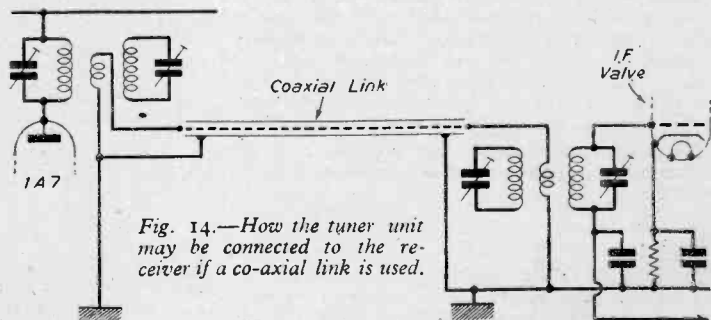

Fig. 14.—How the tuner unit may be connected to the receiver if a co-axial link is used.
**T**HERE may be losses in the lead connecting the remote unit to the receiver proper, but these should not be excessive if care is taken. Cotton-covered bell wire would not prove very efficient for this job, owing to its poor insulation and comparatively high resistance. Good quality lighting flex (used as mentioned above) should do quite well in the absence of screened twin cable. Co-axial cable would prove ideal, if the constructor considered the cost were justified. If co-axial were used, the centre-tap at the receiver could be dispensed with, the outer covering of the co-axial cable being earthed at both ends. See Fig. 14.